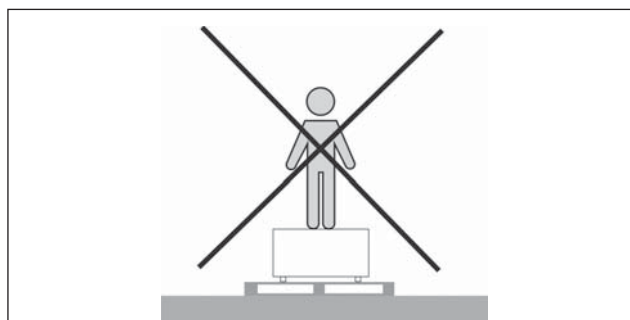

Fig. 9.1
- No person should walk or step over the equipment because it can generate an accident or a risky situation (Fig. 9.1).